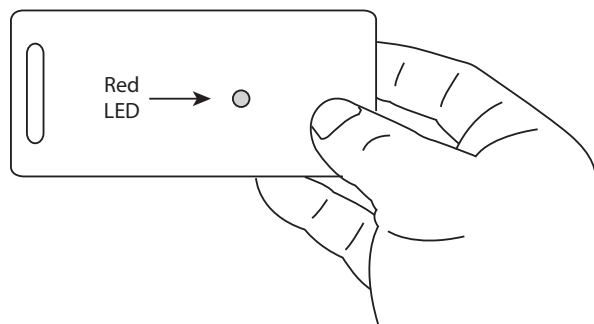

Figure 7: TT-1 Presentation Orientation for Field Test
4. Hold the LRT-5 Transponder in your hand. By walking the area you can quickly determine the area of coverage. When the Red LED is blinking, you are in a covered area. If the LED stops blinking, you are out of the covered area. Proper orientation of the Exciter/Antenna can be quickly accomplished by using the LRT-5 as your test equipment (see Figure 7).